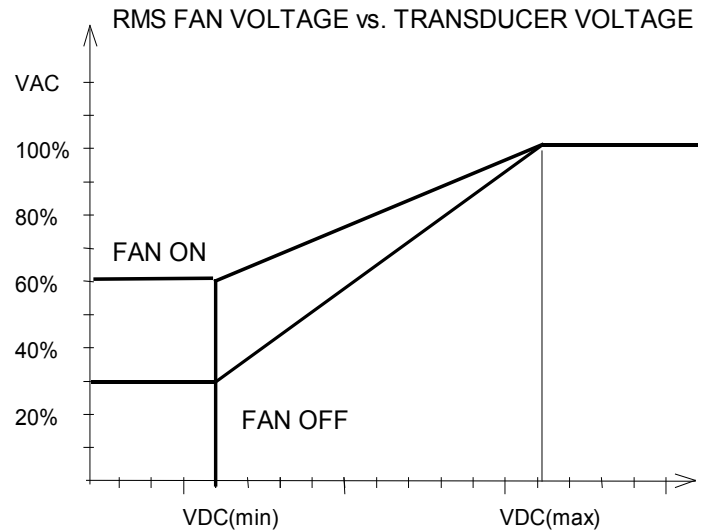

Figure 8
**Setting Control Parameters (switch #3,4,5,6):** To customize the control slope to your transducer, use DIP switches 3 & 4 to set idle or minimum speed voltage, use switches 5 & 6 to set full speed control voltage. See table 6, and figure 8 for details.
**Fan On / Fan Off Feature (switch #1):** To turn fans off automatically when transducer voltage drops below VDC (min), set switch #1 to the ON position. To keep fans running at idle speed below the VDC(min), set switch #1 to the OFF position. See figure 8.
**Setting Idle Speed (switch #2):** The idle speed is the minimum voltage (as a % of supply voltage) supplied to the fan. When used in the remote transducer mode, the Nimbus can be set for idle speeds of 30% by setting DIP switch #2 to OFF or 60% by setting DIP switch #2 to ON. Other idle speeds can be supplied, contact customer service for details. See figure 8.